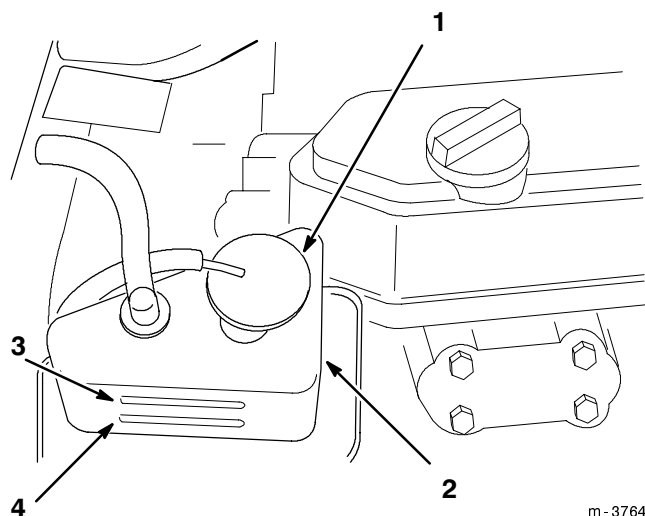

Figure 7
3. Check coolant level. Coolant should be between the two lines on the reserve tank when the engine is cold (Fig. 7).